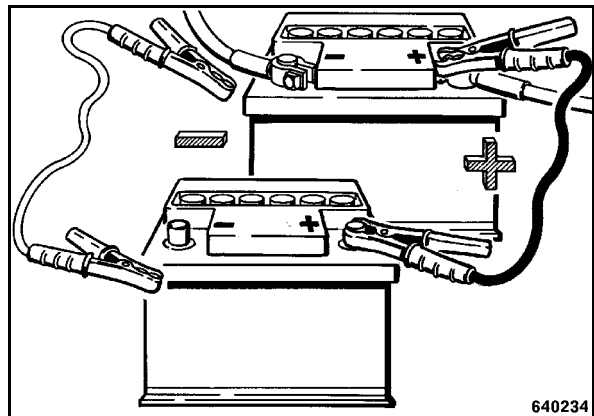

Fig. 12
- When starting with external batteries connect the positive poles (Fig. 12) first and the negative poles (ground cable) after.
Fig. 12 under hydraulic oil tank